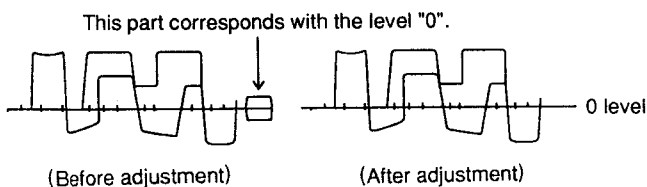

Fig. 4
6. Rotate RV101 until the part of ANTI PAL waveform corresponds with the level "0". (Fig. 4)